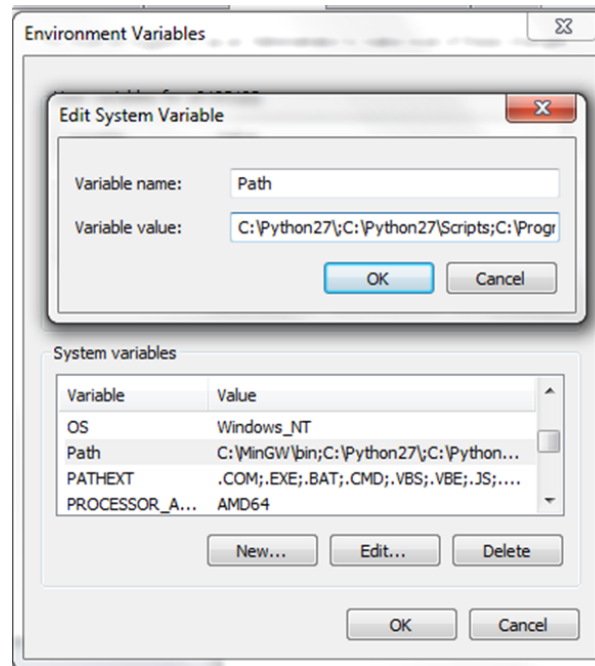

Figure 27. Editing the Path
- Step 7. Add the following in the *Variable value:* field: *C:\Python27\;C:\Python27\scripts* (see Figure 27).